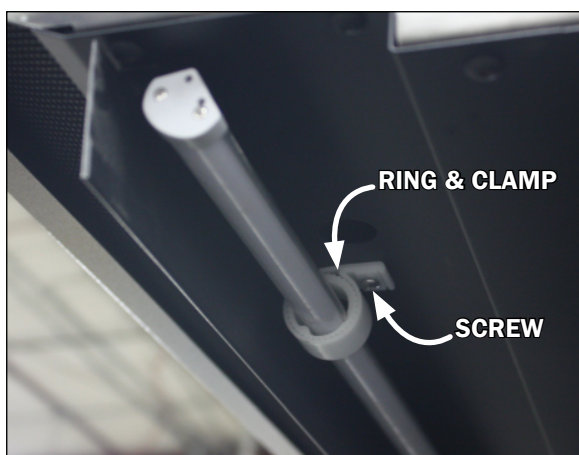

Fig. 12 LED light & ring/clamp
2. Remove the screws from the light clamps (Fig. 12) while keeping ahold of the light. Once the screws are removed the light rod will come away from the case with the clamps still holding to the light.
3. Line-up the closed clamps (Fig. 12) and light rod with the existing screw holes on the case and re-attach.